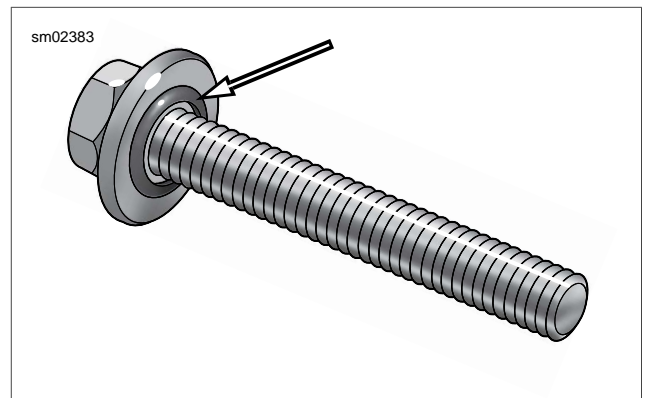

Figure 6-28. Sealing Fastener
4. See Figure 6-28. Insert **new** sealing fasteners.